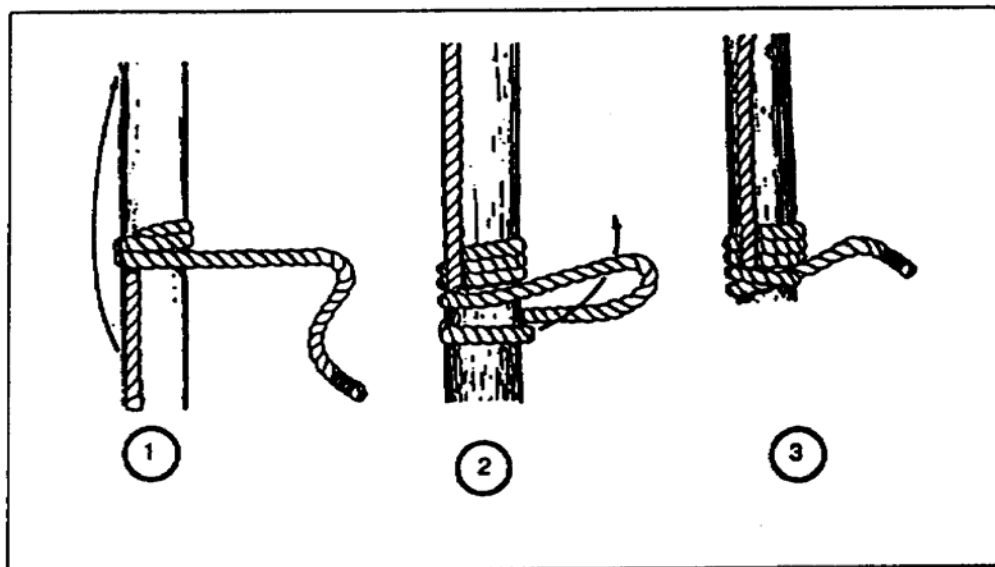

Figure 4-30. Rolling hitch
i. Rolling Hitch. The rolling hitch (Figure 4-30) is used to lower a load slowly. The boatswains chair is another important use of the hitch. You can lower yourself by releasing the pull on the fall line and rolling the knot.